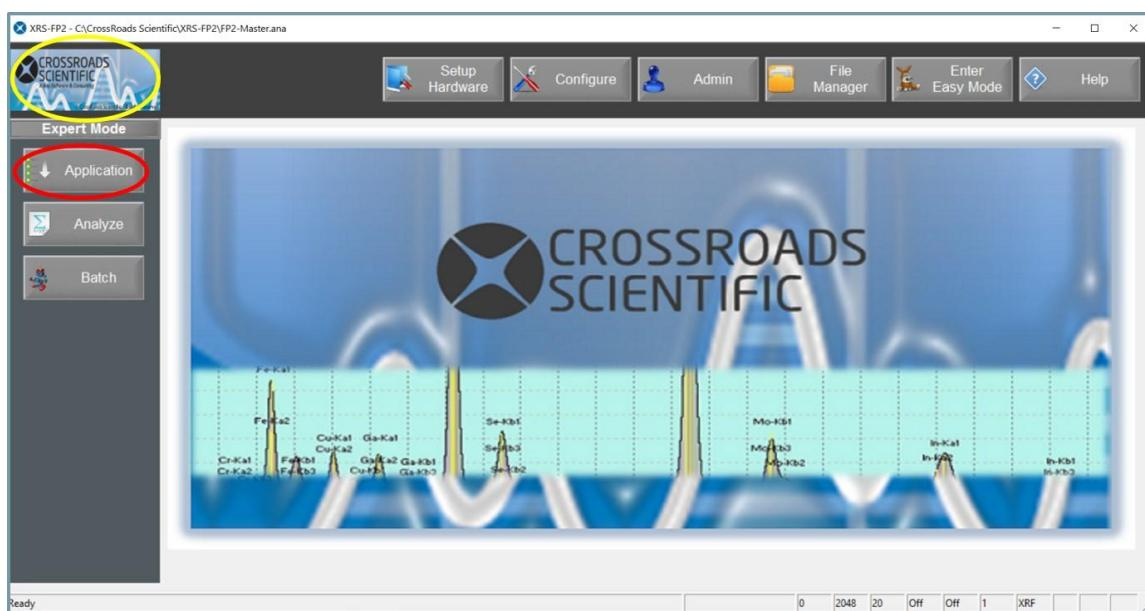

Figure 12. XRS-FP2 Application Setup. From the XRS-FP2 home screen select the application button to setup the application.
1. Click on the **Home** button (Fig. 12, yellow circle), then select the **Application** button (Fig. 12, red circle).